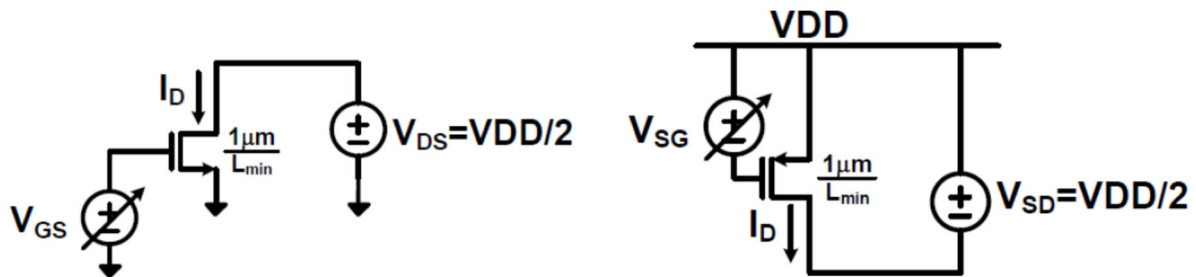

Figure 8 (a) NMOS f_T Test Circuit
- Figure 8. The easiest way to do this is to run a DC sweep with $|V_{GS}|$ varying from 0 to VDD and plot the following equation.